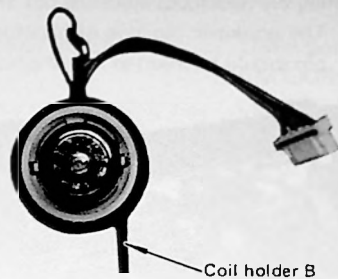

Fig. 3-9
- Attach the coil holder B to the deflection coil (Fig. 3-9) and hold it with two screws.